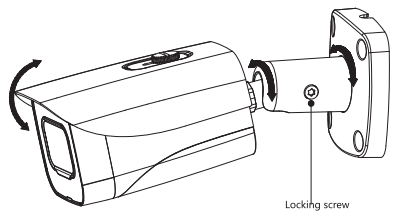
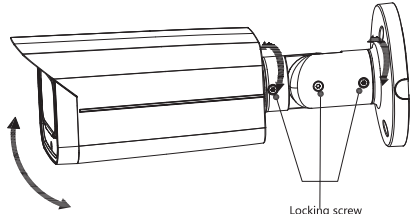

Figure 3-3
Figure 3-4
- For masonry mounting surface, insert expansion bolts ④ from the accessory pack in the screw holes.
- Step 3** Adjust the location of the bracket ③ according to cable outlet requirement (top out or side out), then pull the cable out through mounting surface or the side wire tray. Align the screw holes on the bracket ③ to those on the mounting surface, then put in and fasten the supplied self-tapping screws ② to attach the device ① to the mounting surface.
- Step 5** Loosen the locking screw first, aim the lens to the ideal angle and adjust the focus until you get clear image (see Figure 3-3 or Figure 3-4), and then fasten the locking screw.